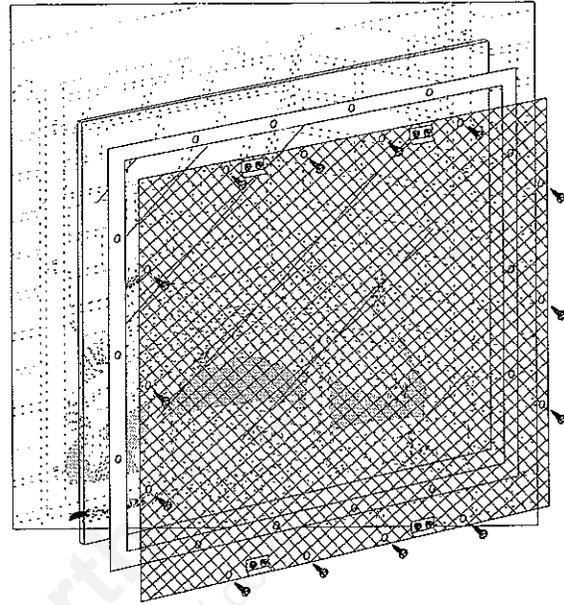

FIGURE 42. Removing the glass and frame.
3. Alternately loosen all of the Phillips head screws. Remove all but two upper screws. Figure 42.